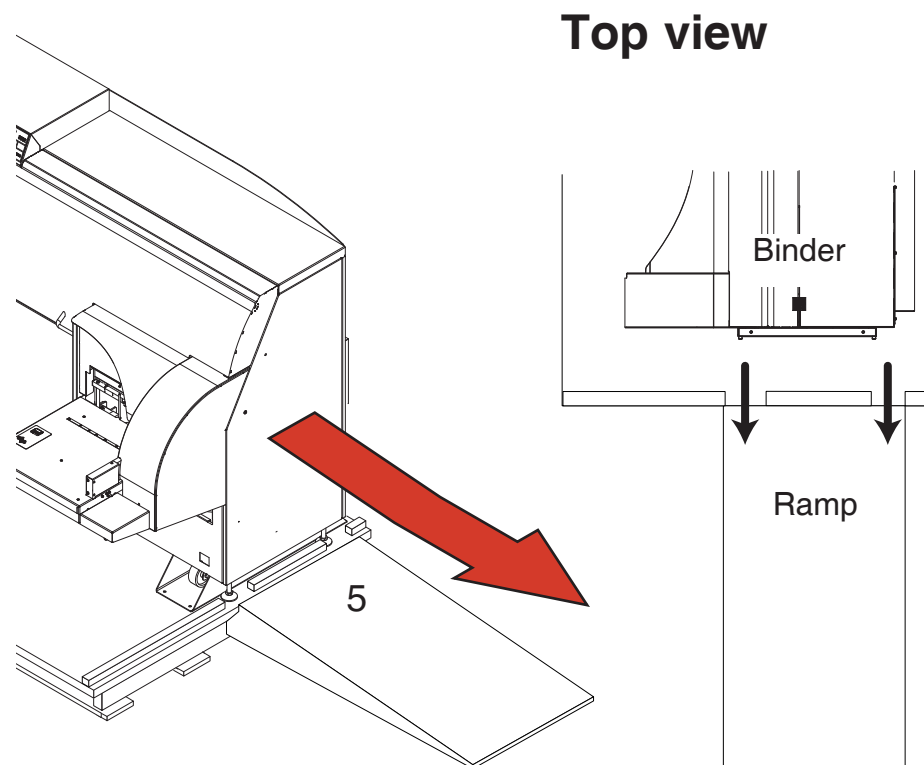

Fig.6
6. Install correctly the ramp against the pallet (Fig.6). The binder wheels must go through the cuts of the pallet.